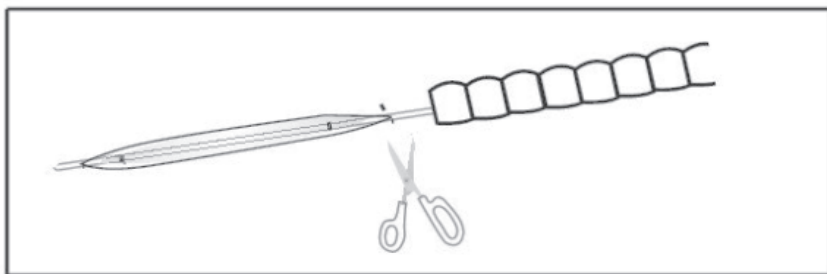

Figure 4
8. If the deflated balloon or the preloaded guidewire cannot be withdrawn from the working channel after the procedure, removal of the endoscope along with the deflated balloon and the preloaded guidewire may be necessary in order to prevent damages to the endoscope. After removal, withdraw the balloon sheath by cutting the balloon at its proximal end, as shown in Figure 4.
Do not forcefully withdraw the balloon or the preloaded guidewire from the endoscope if significant resistance is encountered. Removal of the endoscope along with the compromised balloon and the preloaded guidewire may be required in order to prevent damages to the endoscope. Remove the balloon catheter from the endoscope by cutting the proximal end of the balloon (See Figure 4).